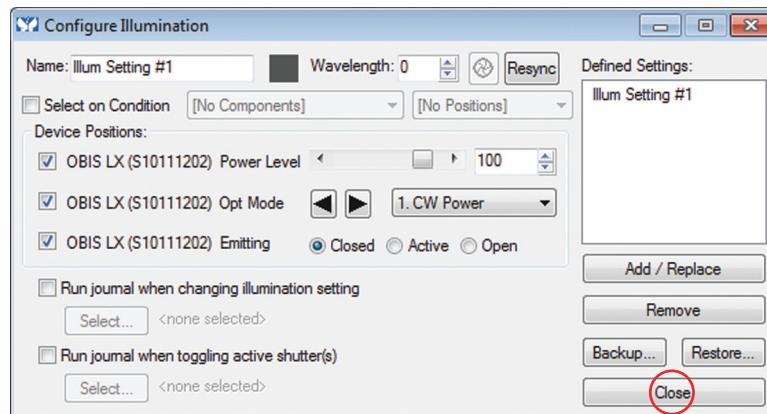

Figure VI-24. Close Configure Illumination Settings
5. Click the Close button shown in Figure VI-24 to exit the Configure Illumination window.